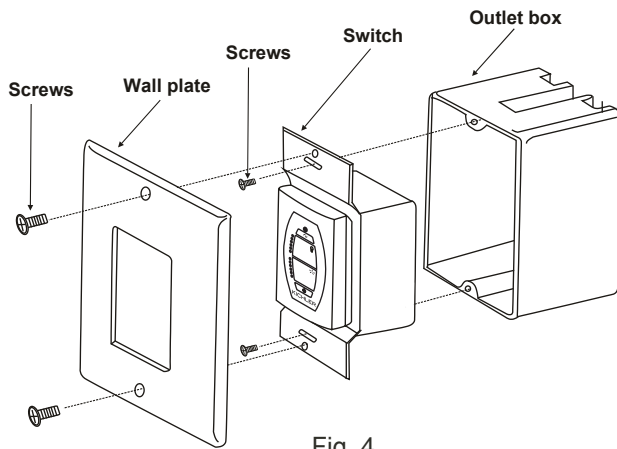

Fig. 4
4. Attach the Speed/Light Switch to the wall outlet box and secure with the two screws provided. (Fig 4)
5. Attach the wall plate to the switch with the two screws provided. (Fig. 4)